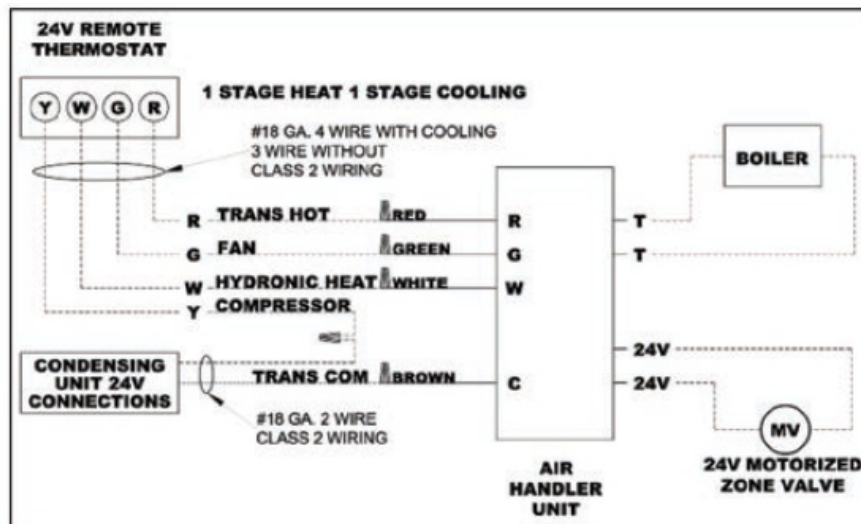

Fig 11-1.
Fig.11-1 shows the typical electrical connections required for A/C only and heat pump applications.
- The Y wire from the thermostat is not connected at the air handler. This wire goes directly to the outdoor unit 24 volt wiring to turn on the outdoor condensing unit when a call for cooling takes place. The 24 volt common for the outdoor unit circuitry is connected at the air handler brown wire. (See Fig11-1.)